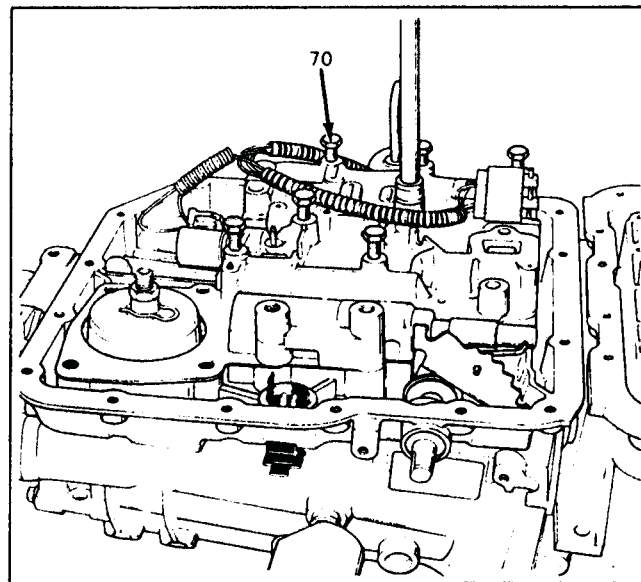

Figure 15
10. Remove the 7 remaining valve body bolts, using a 13mm socket as shown in Figure 15.